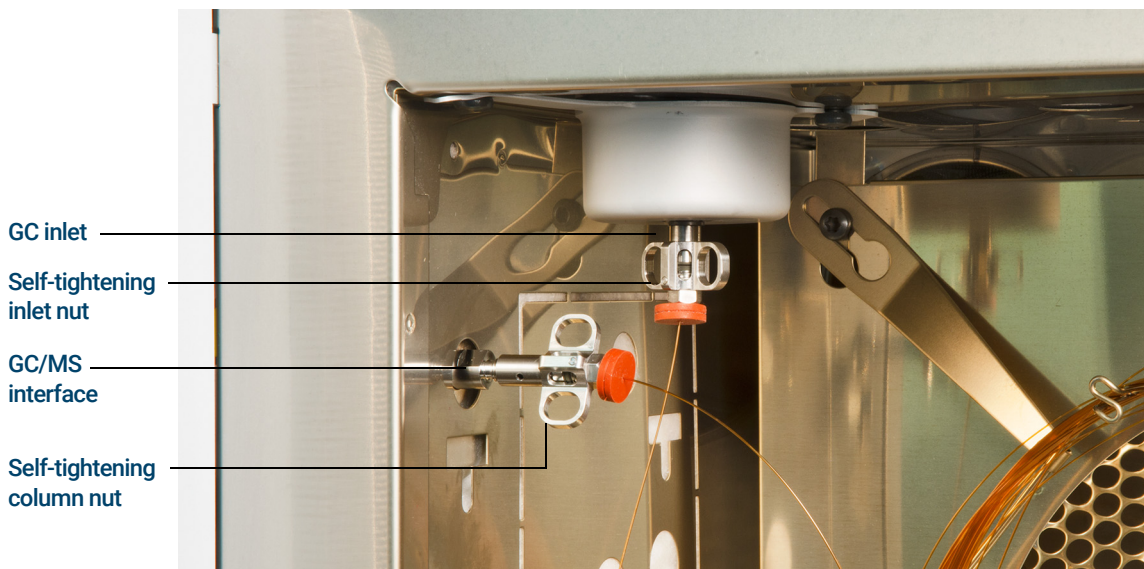

Figure 6. Installing a capillary column in the GC/MS interface
- 11 Hand-tighten the nut. (See Figure 6.) Ensure the position of the column does not change as you tighten the nut.